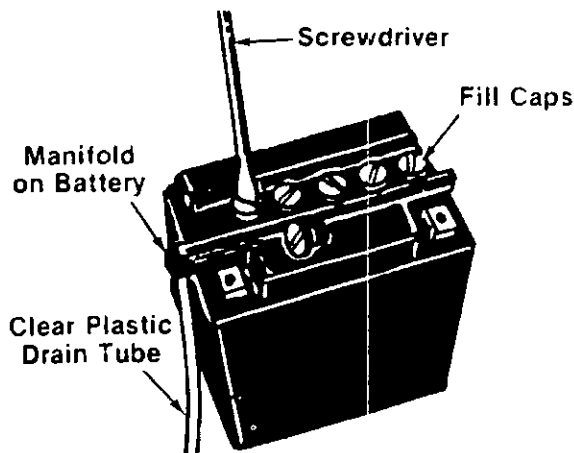

FIGURE 9.
3. Place one end of clear plastic drain tube on manifold of battery. See figure 9.
4. Remove the six fill caps from the top of the battery with a screwdriver. Care should be taken not to damage the fill caps. See figure 9.